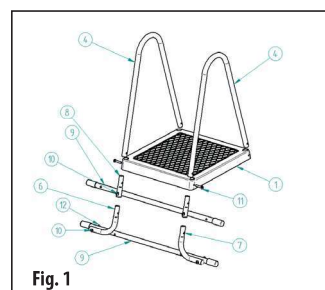

Fig. 1
Slide the ladder's handrails (4) into the holes in the platform (1) from above. (fig. 1) Then, slide the parts which will serve as the support for the ladder on the outside of the pool onto the handrails from below. For a pool with a depth of 120 cm in relation to the ground, use the nipple (8) and for a pool with a depth of 110 cm in relation to the ground, use the curved feet (6 and 7). When assembling, the curved feet must face away from one another and the screw holes for the braces (9) must be parallel to the plane of the platform (1). Make sure that the holes in the handrails (4) are aligned with the holes in the platform (1) and in the nipples (8) (curved feet (6 and 7)). Screw them together using 2 screws (11) and closed nuts (12). Insert the screws from the outside of the platform.
Take the brace of the ladder (9) and screw it to the nipples (8) or curved feet (6 and 7) mounted in step 1. Mount the brace from the side of the platform (1) using the two screws (10) and closed nuts (12). Mount the nut from the side of the platform (1). (fig. 1).